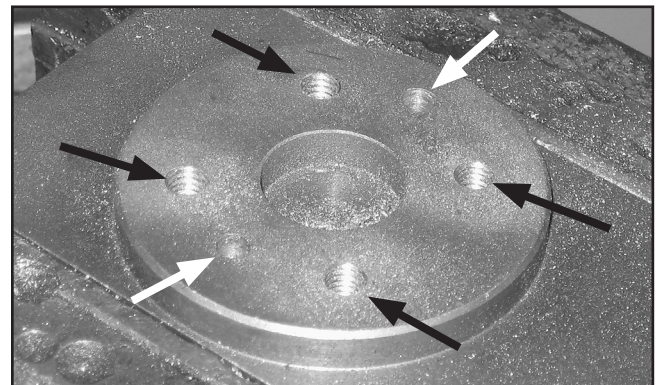

Figure 13. Final drilling and tapping results of new sliding base. (Black arrows point to tapped holes; white arrows point to guide pin holes.)
19. Repeat **Steps 15–18** with the remaining three cap screw holes. The final result should look similar to **Figure 13**.